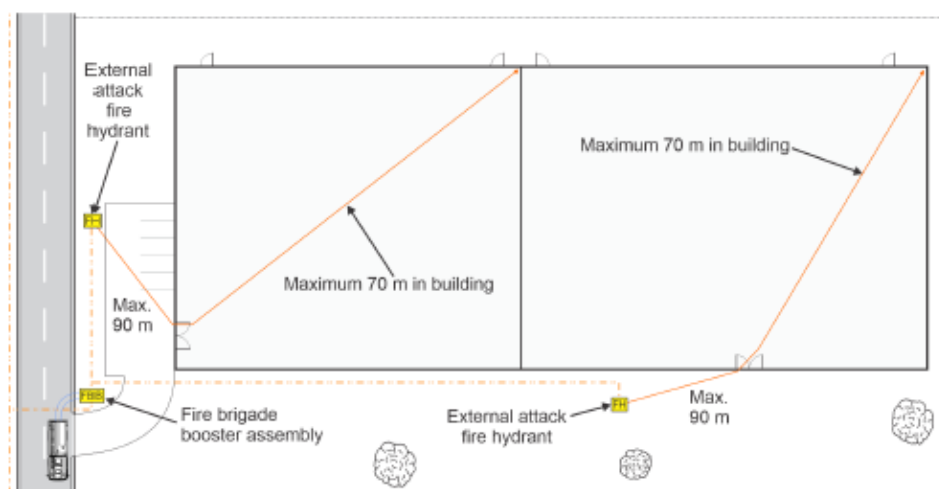

Figure 6 Example of fire hydrant coverage from external attack fire hydrant
- 6.3.1 When a fire hydrant system otherwise complying with AS 2419.1 is being installed, all portions of floor area are to be within 90 m of an external attack fire hydrant, except not more than 70 m is to be within the building (see Figure 6).